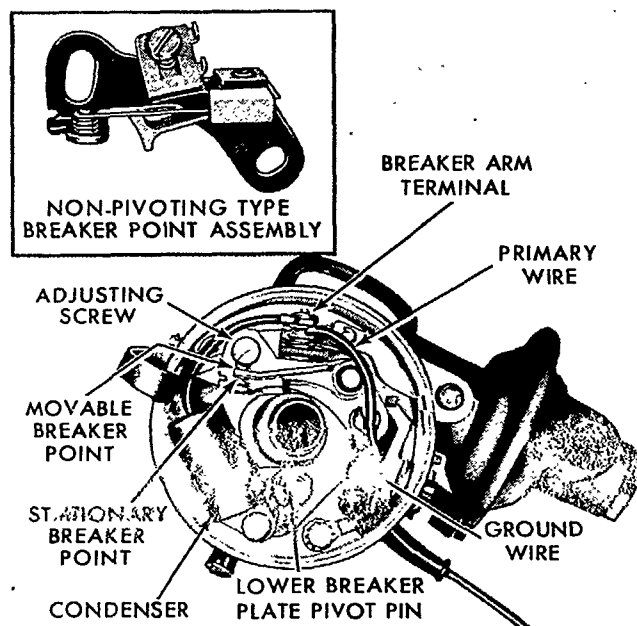

Figure 70
15. Position the lower breaker plate in the distributor. Be sure the breaker plate tabs are up and the pivot pin located in the position shown in Figure 70.
NOTE: Two types of breaker point assemblies are used on Ford Tractors: a pivoting type or a non-pivoting type. See Figure 70. The function and adjustment of both types are the same; however, the electrical connection on the pivoting type is secured with a nut and lock washer, whereas the non-pivoting type uses a screw.
19. Install the ground wire, Figure 70.
The distributor does not have to be removed from the engine to service the distributor breaker point assembly, Figure 70.
3. Loosen the nut and lock washer (or screw) that secures the condenser and primary wires to the moveable breaker arm terminal and remove the wire leads, Figure 70.